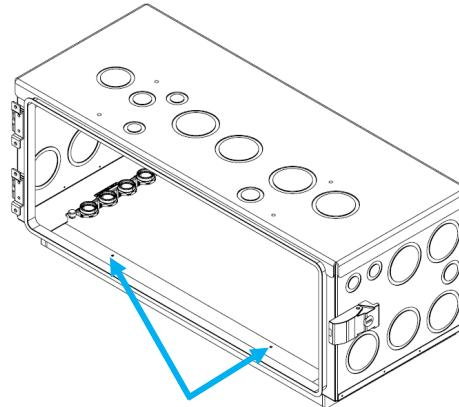

Figure 1 – Screw Install Location
Step 1 (if applicable): Identify the four screw locations that attach to the All Weather battery on the lower side of the conduit box. (**Figure 1**). Place the conduit box on top of the battery and use the (4) screws provided with the battery to tighten the conduit box to the battery.